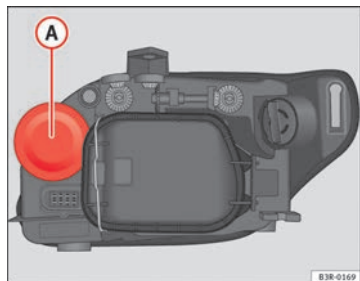

Fig. 191 Main beam headlights
- Pull up on the rubber cover (A) → fig. 191 to remove it.